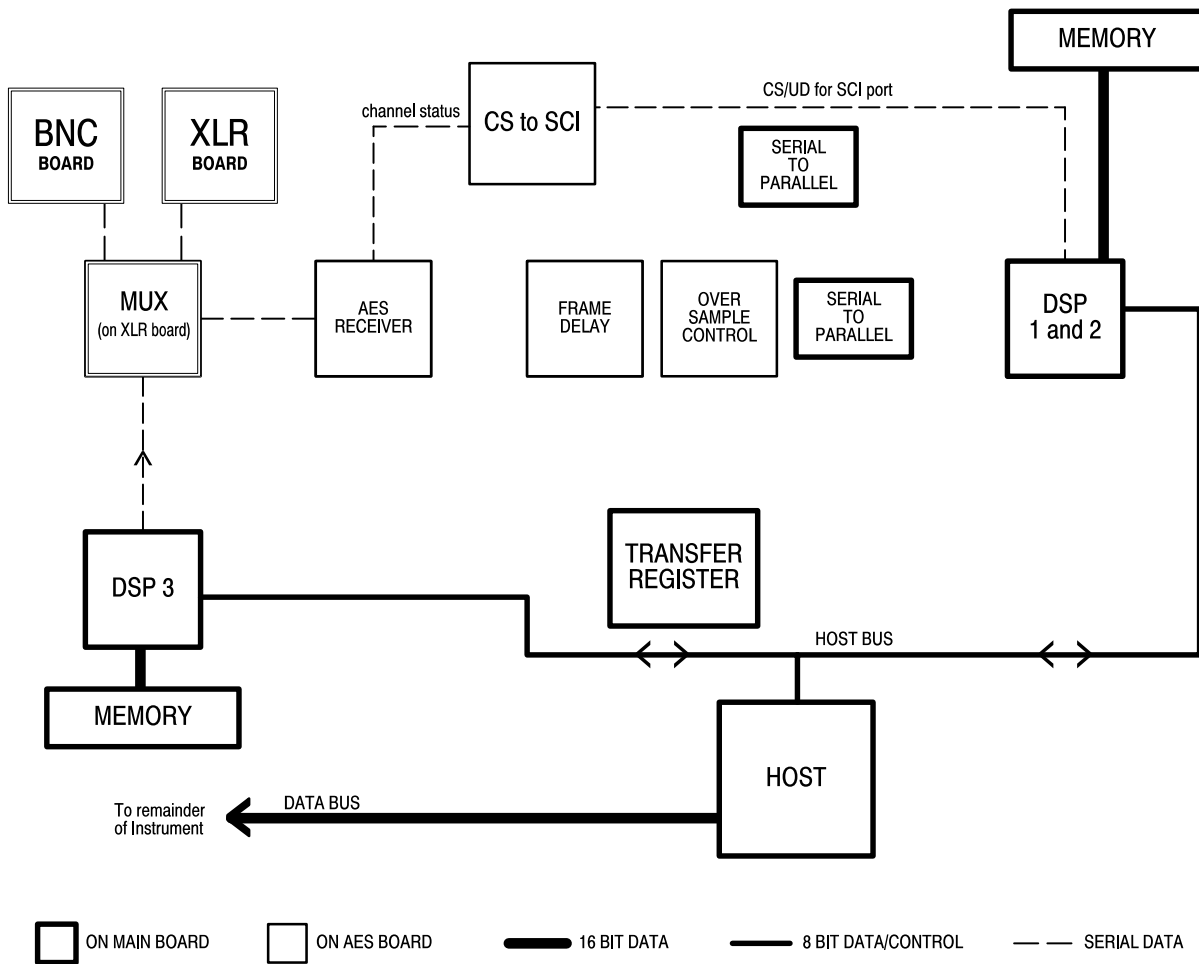

Figure 5-7: The channel status tests
- Channel status tests, DSP1 Chnl Status and DSP2 Chnl Status, Figure 5-7.